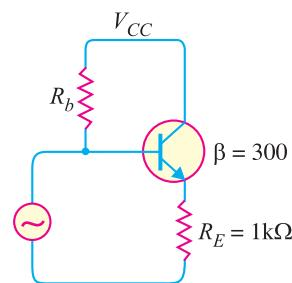

Fig. 13.31
7. In Fig. 13.31, if input and output impedances without feedback are $2 \text{ M}\Omega$ and 500Ω respectively, find their values after negative voltage feedback. [302MΩ; 1.6Ω]